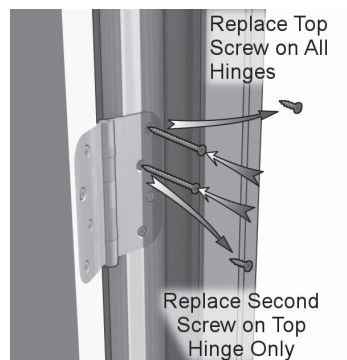

Figure 11
**1k) (Required)** If our door unit has hinges on a side jamb (instead of having hinges on a mullion), use the provided 2 1/4" long screws to replace the top two screws in the top hinge and the top screw for the rest of the hinges (figure 11).